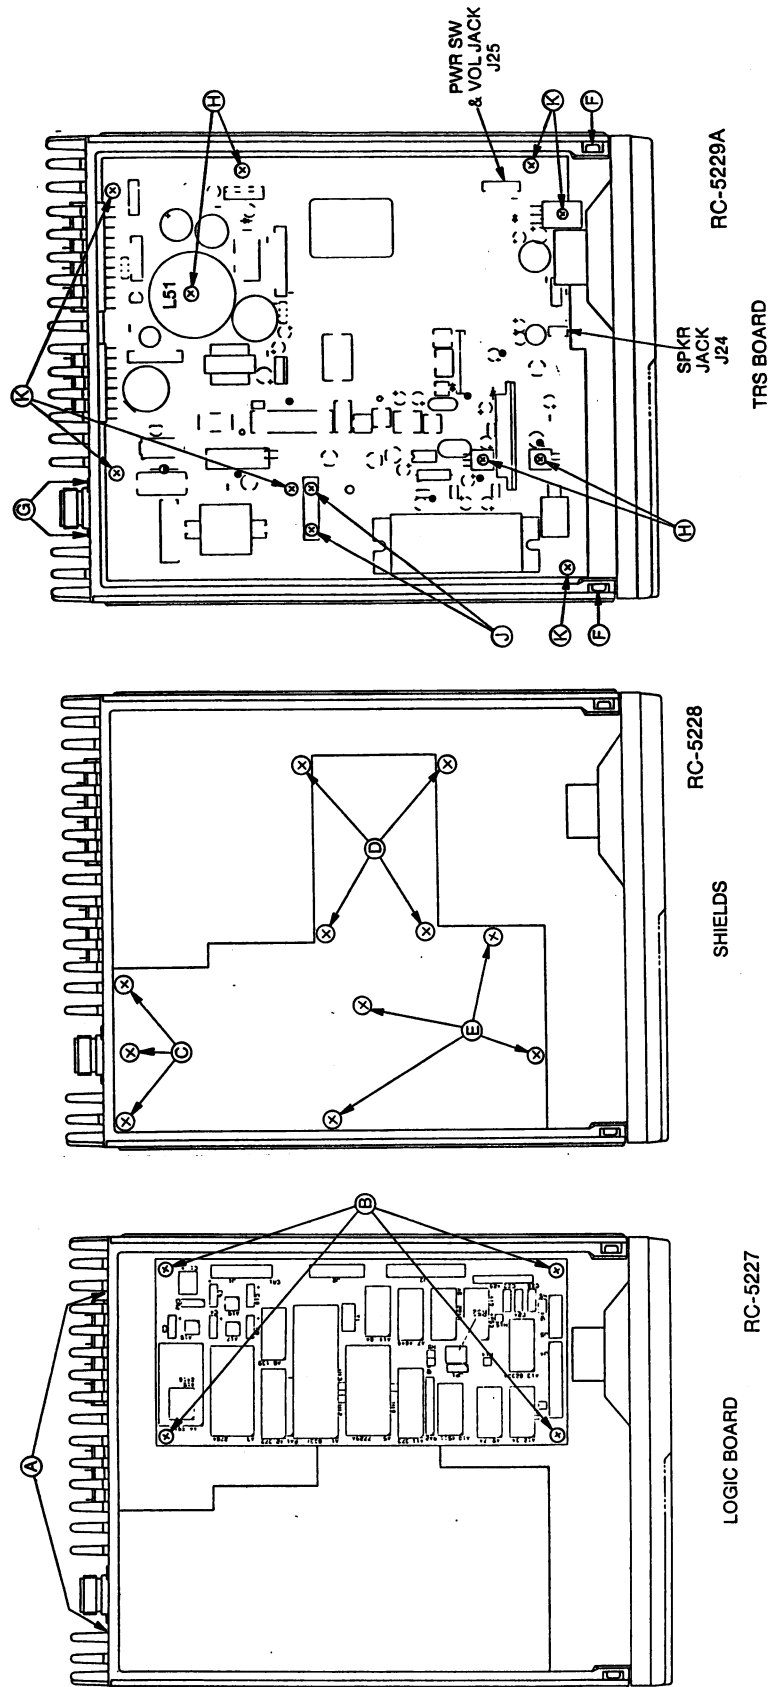

Figure 1 - Disassembly Procedure
To gain access to the transmitter/receiver/synthesizer (TRS) or logic board for servicing, loosen the two screws (A) securing the top cover at the rear of the radio. Then pull the cover out from under the edge of the front panel and lift the cover off (See Figure 1).
2. Remove the four screws (B) securing the logic board to the system frame, and carefully lift up the board with the interconnecting cables attached.
4. Remove all excess solder from the board, and clean the holes to allow the new transistor to be positioned properly and the capacitors to fit into proper locations. Refer to Figure 1 and trim leads of Q12 as shown.